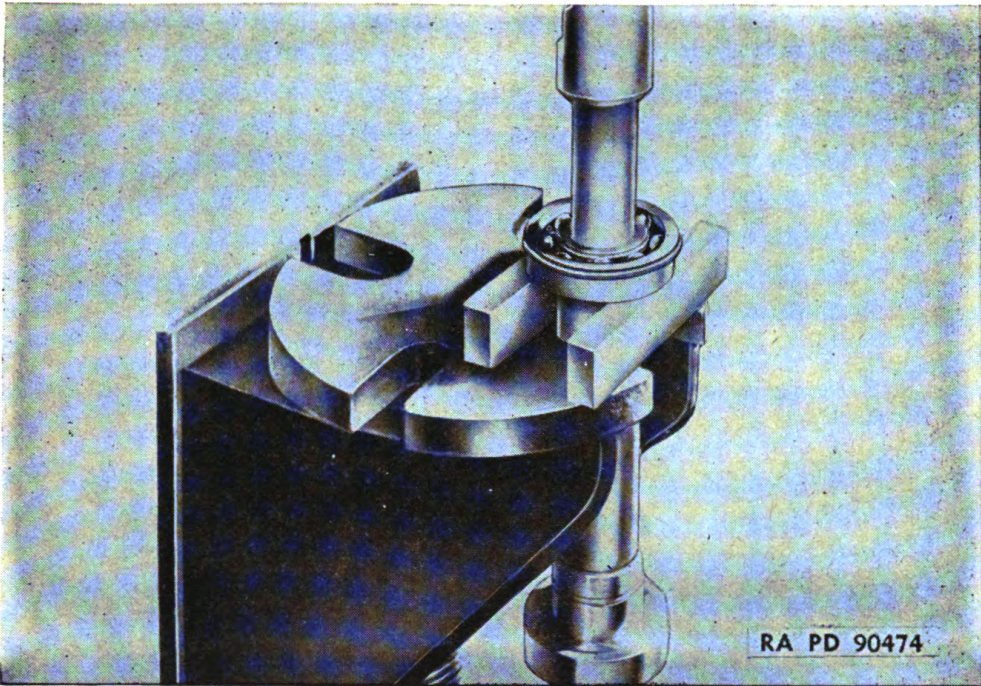
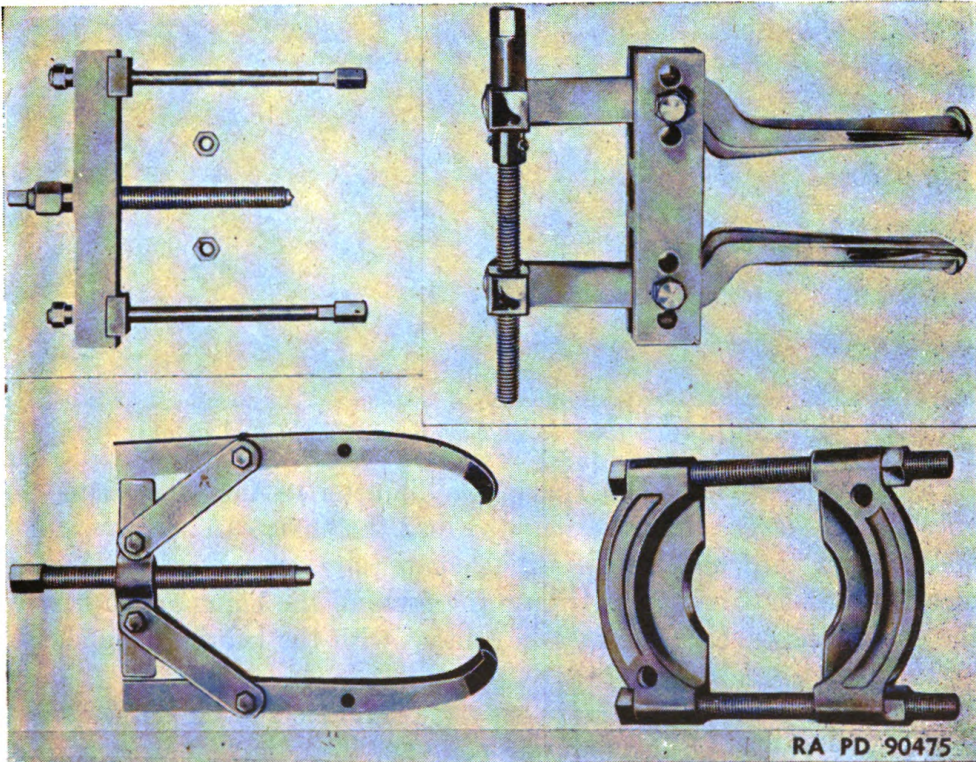

Figure 20. Use steel blocks that are the same size and squared up on all sides to assure even contact by both blocks.
Figure 21. Typical bearing pullers which may be used separately or in various combinations to pull or push complete bearings or individual rings.
(1) Support blocks may consist of flat bars placed beneath the inner ring adjacent to the shaft (fig. 20), a piece of flat stock with a U-shaped cutout for repeated operation, or a circular ring bored slightly larger than the shaft diameter and sawed into two semicircular segments.
(2) The press table and blocks should be clean and square, and some means should be provided to keep the shaft from falling to the floor.
(3) The arbor press can only be used to remove rings or bearings from housings which are so designed that some portion of the outer ring can be exposed. In cases where the entire face of the outer ring is exposed, a section of pipe or tubing, capped by a steel block, can be used.
b. BEARING PULLERS (figs. 21, 22, 23 and 24). Pulling tools are useful where no arbor press is available or where the shaft is too large or obstructed to go into a press. They are recommended when shoulder height permits and when enough of the bearing is exposed. Set pullers up so they will push or pull straight and square. (See fig. 23.) Take care not to damage shaft threads, keyways, or shoulders in the process.